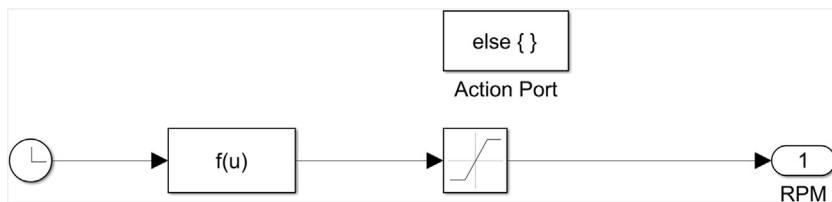

Figure 10.30 Inside the fourth If action subsystem block.
- b. Connect them as shown in Fig. 10.30.